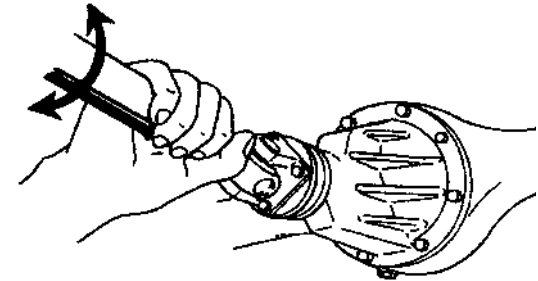

Fig. 1.4-15
- (1) Check whether universal joint and spline of transmission shaft is loose. If you hear “chattering” sound, damaged parts should be replaced. See Fig. 1.4-15